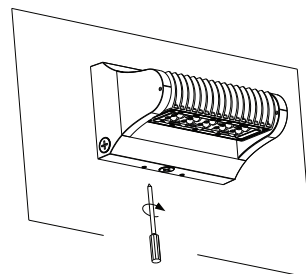

Figure 3
3. Affix the luminaire onto the bracket and tighten the screws at the bottom. (Figure 3)